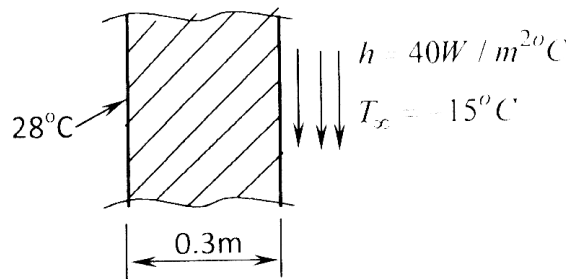

Fig. Q 9(b)
- b. Consider a brick wall Fig. Q.9(b) of thickness, $L = 0.3 \text{ m}$, $K = 0.7 \text{ W/m}^\circ\text{C}$. The inner surface is at 28°C and the outer surface is exposed to cold air at -15°C . The heat transfer coefficient associated with the outside surface is $h = 40 \text{ W/m}^2\text{K}$. Determine the steady-state temperature distribution within the wall and also the heat flux through the wall. Use a two-element model.